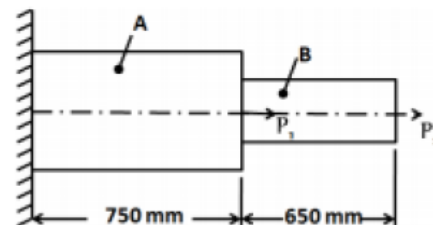

Figure 3 (a)
- 3 a) Determine the nodal displacement for the stepped bar loaded as shown in Figure 3 (a), $P_1 = 100$ KN and $P_2 = 75$ KN. The details of each section of the bar is shown in table: